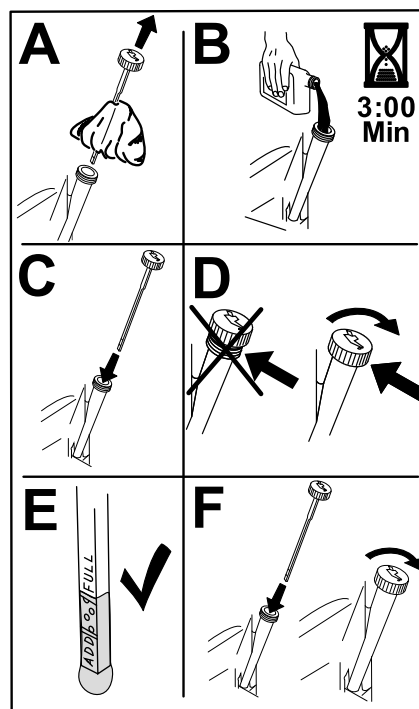

Figure 46
- Slowly pour approximately 80% of the specified oil into the filler tube and slowly add the additional oil to bring it to the Full mark (Figure 46).